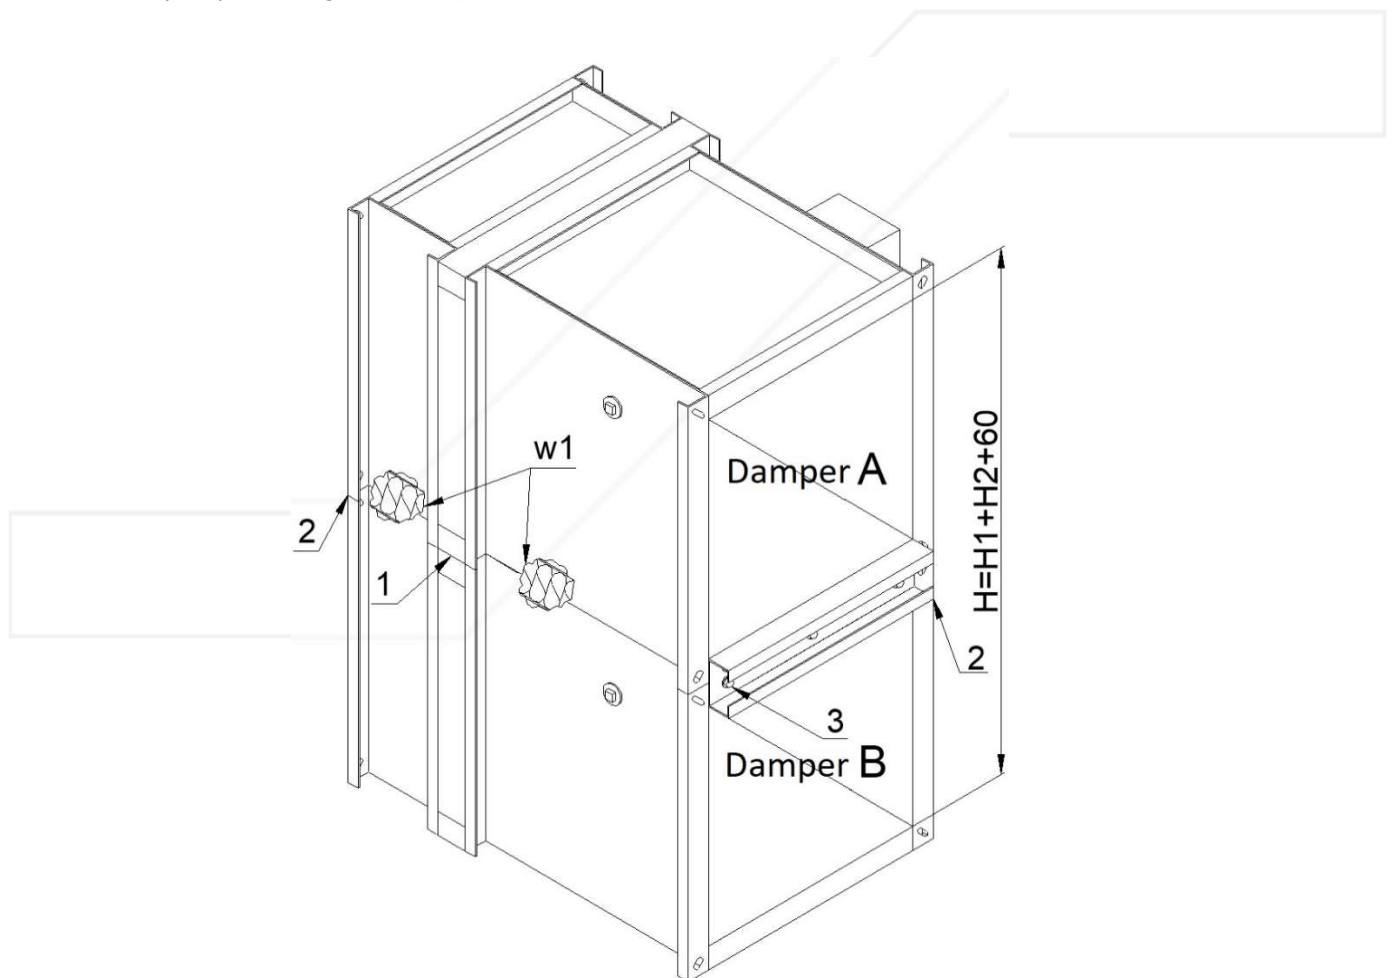

Figure 13. Arrangement 1 - vertical battery consisting of two fire dampers KWP
- a. Fix the PROMASEAL-PL gasket with a cross-section of 20×1.8 mm on insulating spacer of one of adjoining fire dampers (position (1) in the Figure 13).
- c. Place the fire damper A on the fire damper B and assemble them together on the front and back with use of perforated assembly strips (2) and self-tapping screws M6x10 (3), which should be tightened into the openings in fire damper body. In order to carry out the correct assembly, 4 self-tapping screws should be used per each assembly strip with length of 1200 [mm].
Installation of KWP fire dampers batteries in rigid wall compartment (Figure 13 to 16)